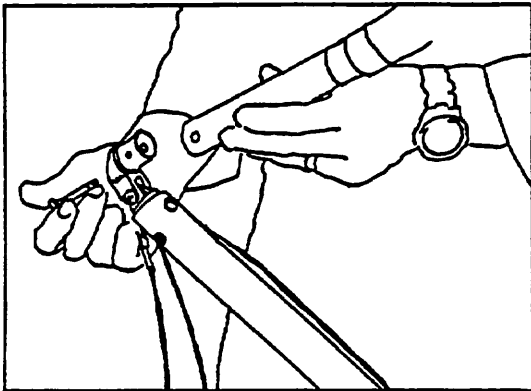

Figure 7
3) Lift the control bar and attach the basetube to the upright, using the bolt, wingnut and safety provided. (Figure 7 & 8) **Make sure that the aluminum fitting is fully inserted into the basetube, and that the bolt is through both the basetube and the fitting. If the hole in the fitting can be seen outside the end of the basetube, the fitting is not fully installed, and will likely disengage in flight resulting in a dangerous structural collapse and loss of control of the glider.**